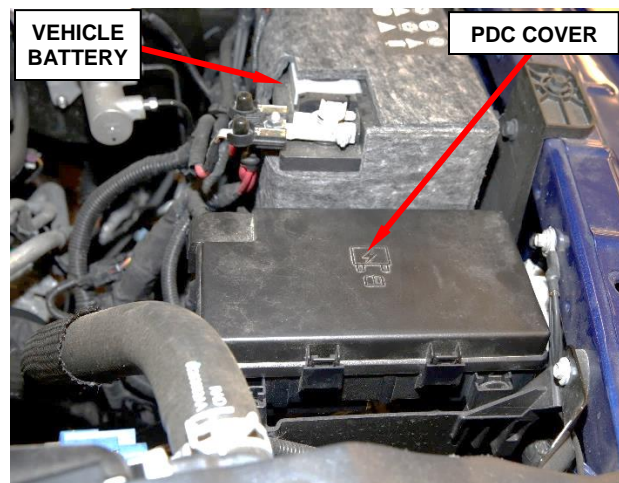

Figure 1 – Power Distribution Center
2. Open the Power Distribution Center (PDC) cover to access the fuses (Figure 1).
13. Install fuel pump fuse F70 to the PDC then close the PDC cover (Figures 1 and 2).